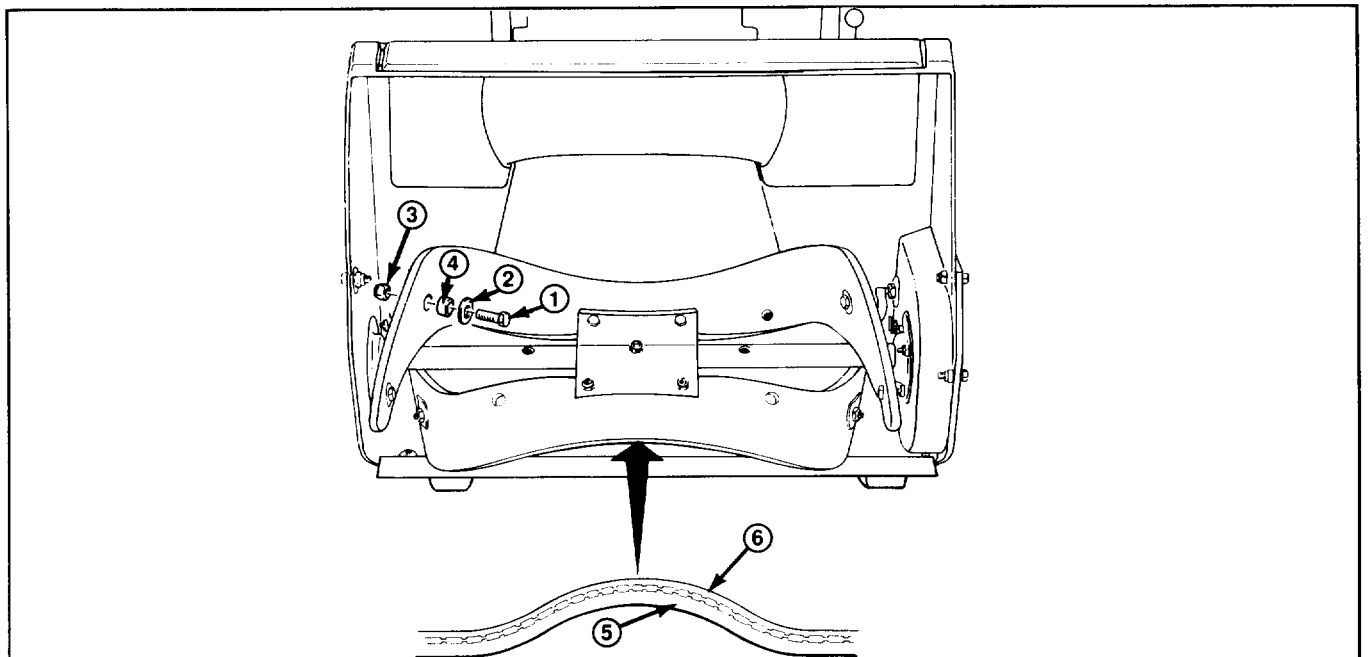

Figure 19
1. REMOVING BLADE (Fig. 19) – Remove (6) 7/16" bolts, (4) washers, and (6) locknuts securing blade to rotor shaft assembly.
2. Slide the blade out from between the steel plates and push the (6) bushings out of the blade holes (Fig. 19).
3. INSTALLING NEW BLADE – The rotor blades are made of laminated rubber. Examine the edge of a blade to see the difference in layer thicknesses (Fig. 19).